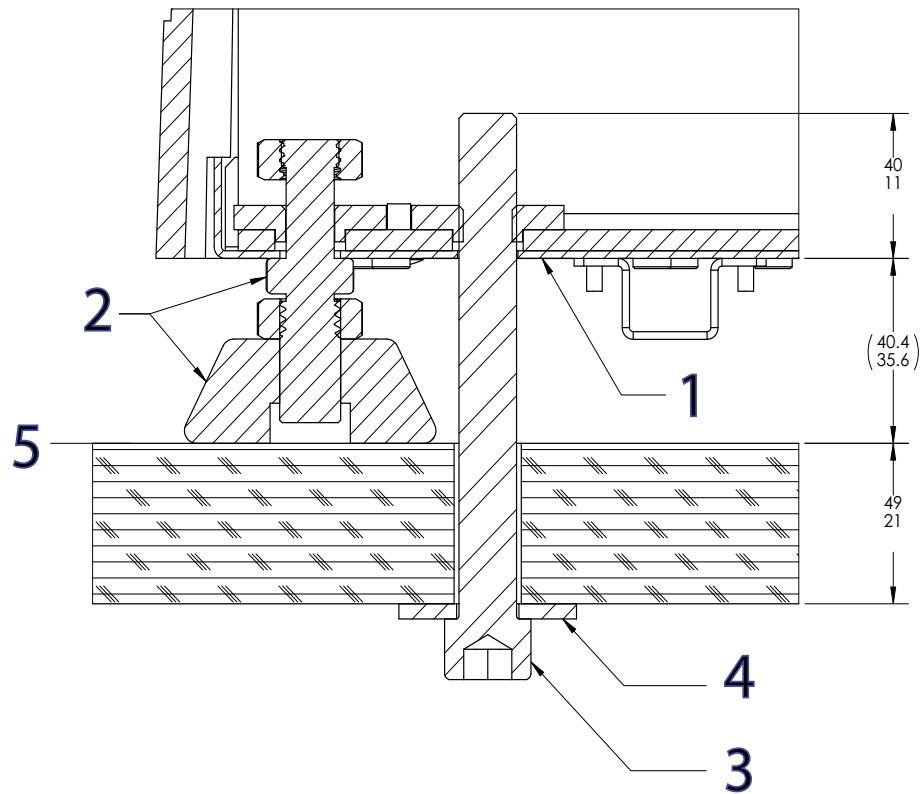

Figure 13. Secure the frame to the table
Legend for Figure 13
3. Install each bolt and oversized washer as shown in Figure 13 on page 64.